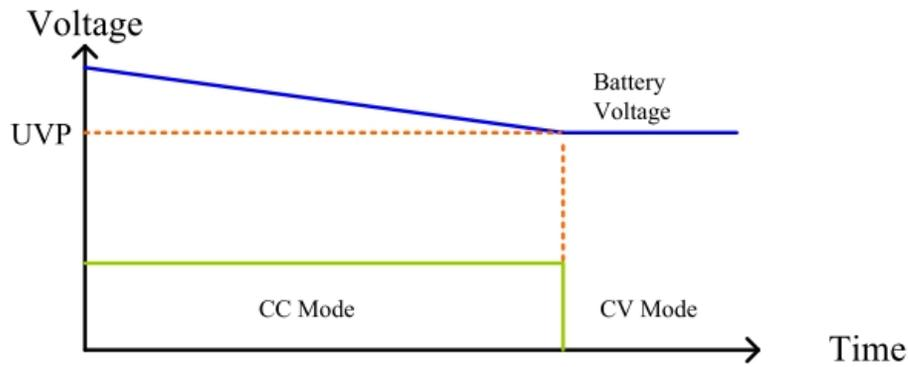

Fig 5-17 TYPE 2 Battery Discharge Figure
When testing loads on of Constant current (CC) mode or Constant Power (CP),, battery voltage is less than UVP Setting values, Constant current (CC) mode auto change to Constant voltage (CV) mode as Fig 5-17 shows. (CV values =UVP setting values).